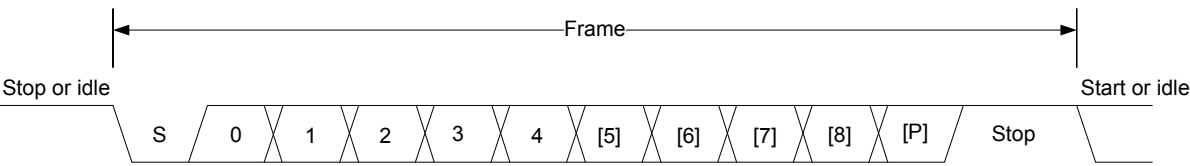

Figure 20.2. USART Asynchronous Frame Format
The frame format used in asynchronous mode consists of a set of data bits in addition to bits for synchronization and optionally a parity bit for error checking. A frame starts with one start-bit (S), where the line is driven low for one bit-period. This signals the start of a frame, and is used for synchronization. Following the start bit are 4 to 16 data bits and an optional parity bit. Finally, a number of stop-bits, where the line is driven high, end the frame. An example frame is shown in Figure 20.2 USART Asynchronous Frame Format on page 529.